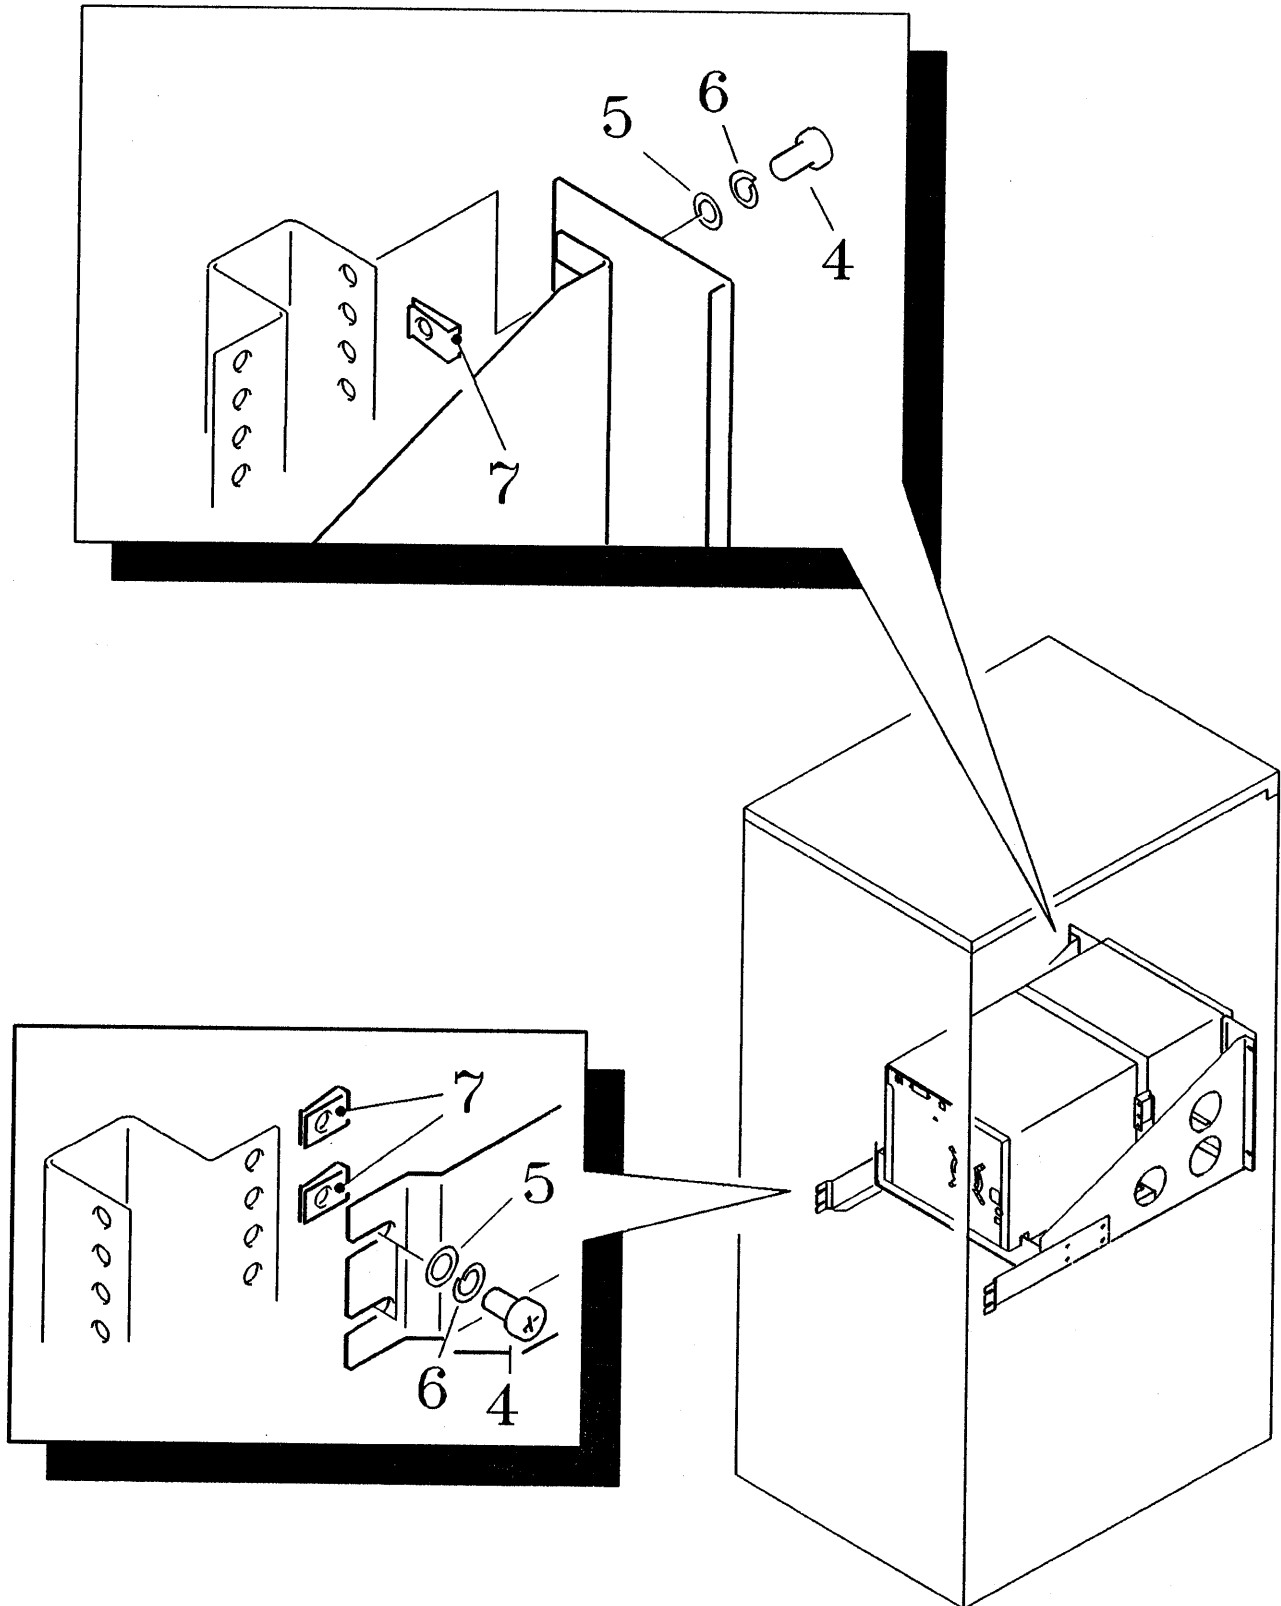

Figure 10-2. Rack Mounting Details
- 4) Thread the strap (3) through the channel in the base of the rack adaptor (1).
- 5) Put the sheet metal nuts (7) into the rack, as shown in Figure 10-2.
- 7) Attach the mounting kit to the rack using eight M6 screws (4) and washers (5) and (6).
- 9) Tighten the strap (3) around the body of the module, ensuring that the buckle is to one side of the unit. The strap should be hand-tight and the buckle then fastened over-center.